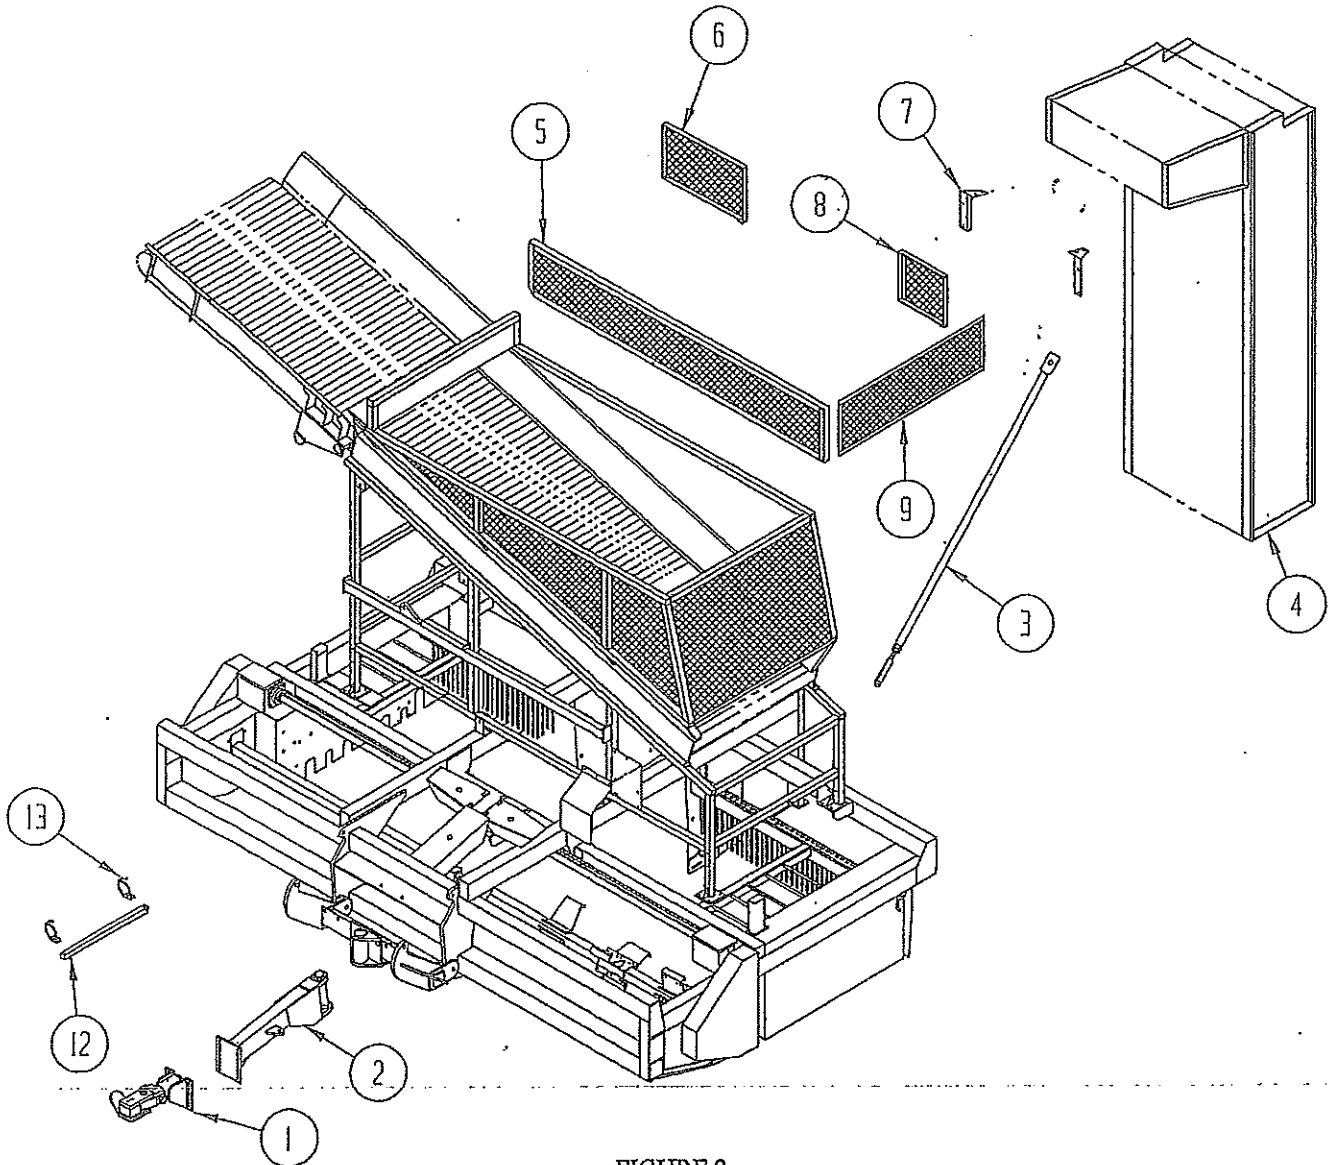

FIGURE 2
Step 5: With the use of a fork lift or other suitable means of lifting, lift the rear elevator into place and attach lower support angles (Item #5, Figure 2) to main frame using (8) 5/8 x 3 hex bolts, nuts, lock & flat washers. Do not completely tighten the nuts at this time.
Step 6: Attach the top elevator mounting brackets (Item #7, Figure 2) to the hopper and then bolt the elevator discharge panels to these brackets. Now, after re-checking to be sure the elevator frame is still square, tighten all bolts and nuts securely.
Step 8: Install the support rod assembly (Item #3, Figure 2.) on the right hand side of the frame using (2) 5/8 x 1 3/4 hex bolts, hex nuts and lock washers.
Step 9: Install all hopper railings (Items #5, #6, #7 & #8, Figure 2).
Step 10: Install the tongue assembly (Item #2, Figure 2) and the heavy-duty swivel hitch